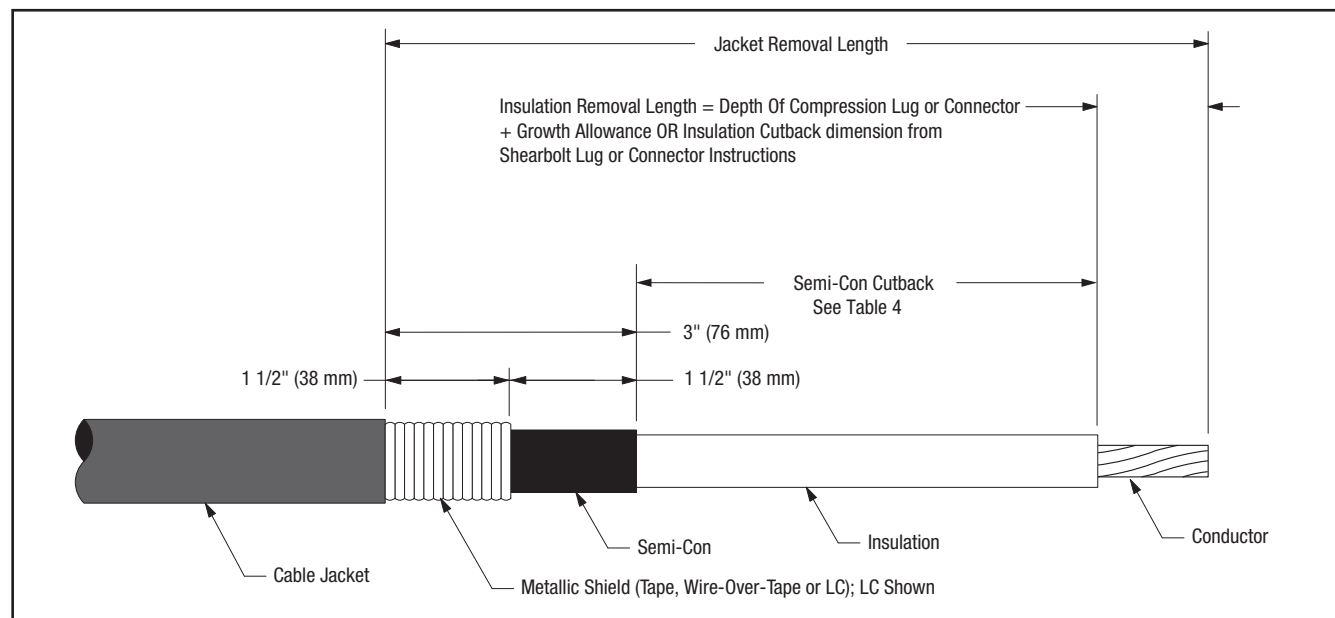

Figure 1
- 2.2 Prepare cable using dimensions shown in Figure 1. **BE SURE TO ALLOW FOR DEPTH OF TERMINAL LUG OR CONNECTOR.**
- Cut the shield wires to the same length as the metallic shield shown in Figure 1: 1 1/2" (38 mm).